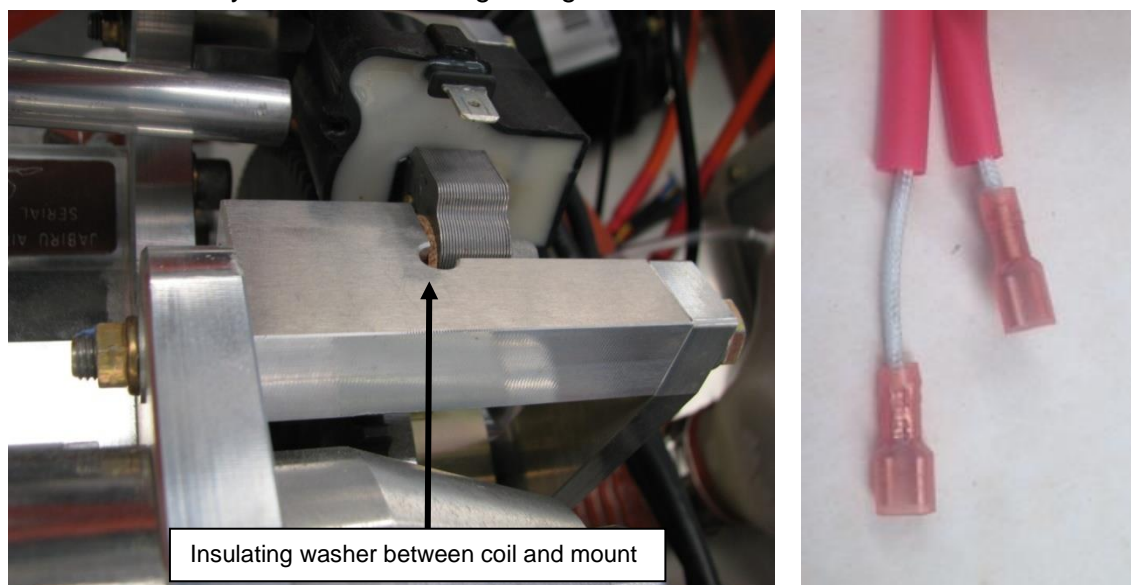

Figure 150 – Ignition Coil Insulating Washer and Stator electrical leads
- The two alternator leads must be of different lengths (at least 25mm difference) to ensure an electrical short cannot occur between the two connectors (see Figure 150 right)